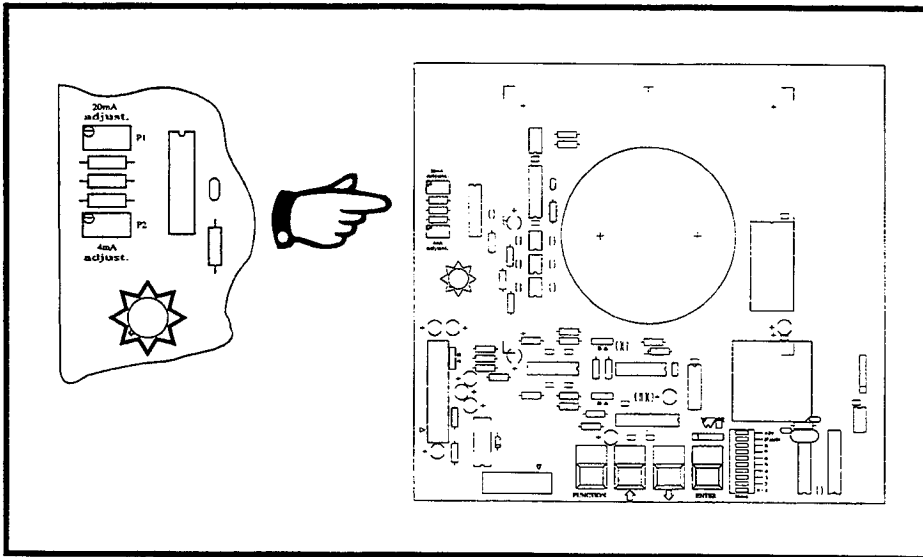

Figure 3-3
- (h) Adjust the **4mA adjust** potentiometer located on the CPU card, see Figure 3-3, until the ammeter reads as close to 4mA as possible.
- (l) Adjust the **20mA adjust** potentiometer located on the CPU card, see Figure 3-3, until the ammeter reads as close to 20mA as possible.